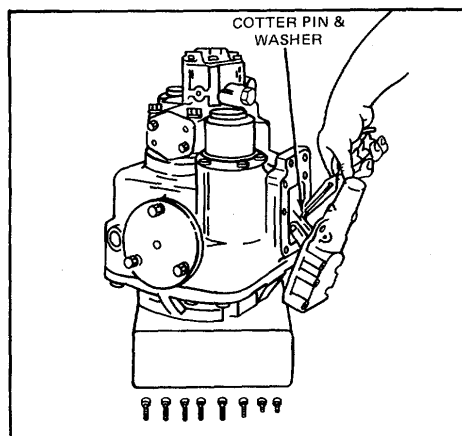

Figure 14.
3. Lift valve away from housing and remove cotter pin and washer. (Refer to Fig. 14.) Remove pin from link in pump.